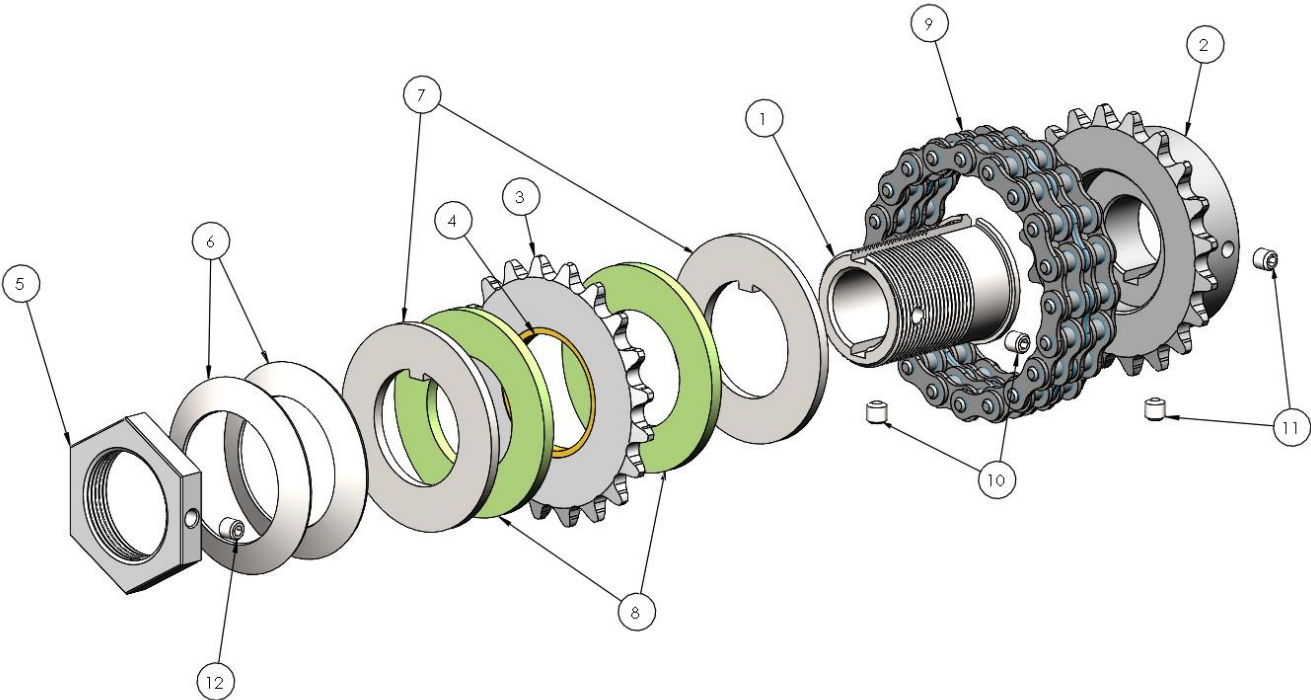

Figure 1
Refer to Figure 1 and the accompanying bill of materials for information on the individual parts of the torque limiting friction clutch.
- Replacement parts are available from the Hersey Clutch Company. Refer to exploded view in Figure 1 for items.